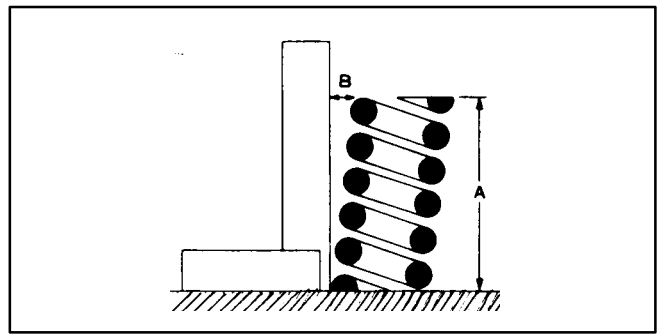

FIGURE 9-9. VALVE SPRING CHECKS
Springs: Check the valve springs for cracks, worn ends, and distortion. If the spring ends are worn, check valve retainer for wear. Check for spring distortion by placing the spring on a flat surface next to a square. Measure the height of spring (A) and rotate it against a square to measure distortion (B), see Figure 9-9. Replace any valve spring that is weak, cracked, worn, or distorted.